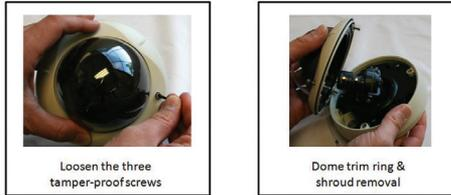

Figure 7.1
1. Using the supplied Torx T-20 security wrench, loosen the three tamper-proof screws holding the dome cover to the enclosure assembly (Figure 7.1). These screws are captive (held to the dome cover) and should not be removed from the dome cover trim ring.